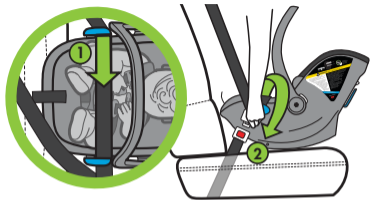

Figure 67
- Route lap portion of the vehicle belt through both blue LATCH/Lap Belt Guides (1) and buckle vehicle belt (2), as shown in **Figure 67**. DO NOT pull the vehicle belt all the way out during this step.